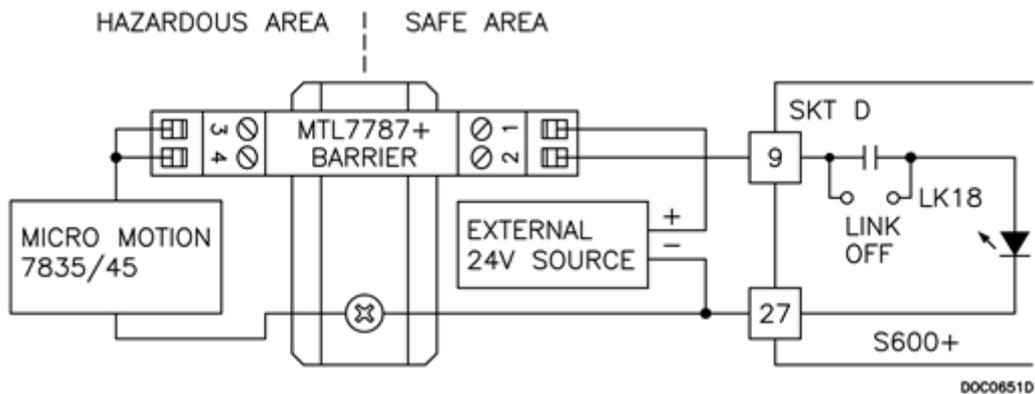

Figure 4-30. Frequency Input Schematic (with IS Barrier and AC-Coupled)
Table 4-21 shows the frequency input pin connections. Refer to Figures 4-30 and 4-31 for field wiring schematics.
**Note:** The Micro Motion (previously Solartron) devices shown in Figures 4-30 and 4-31 may still have their previous manufacturer's labels.